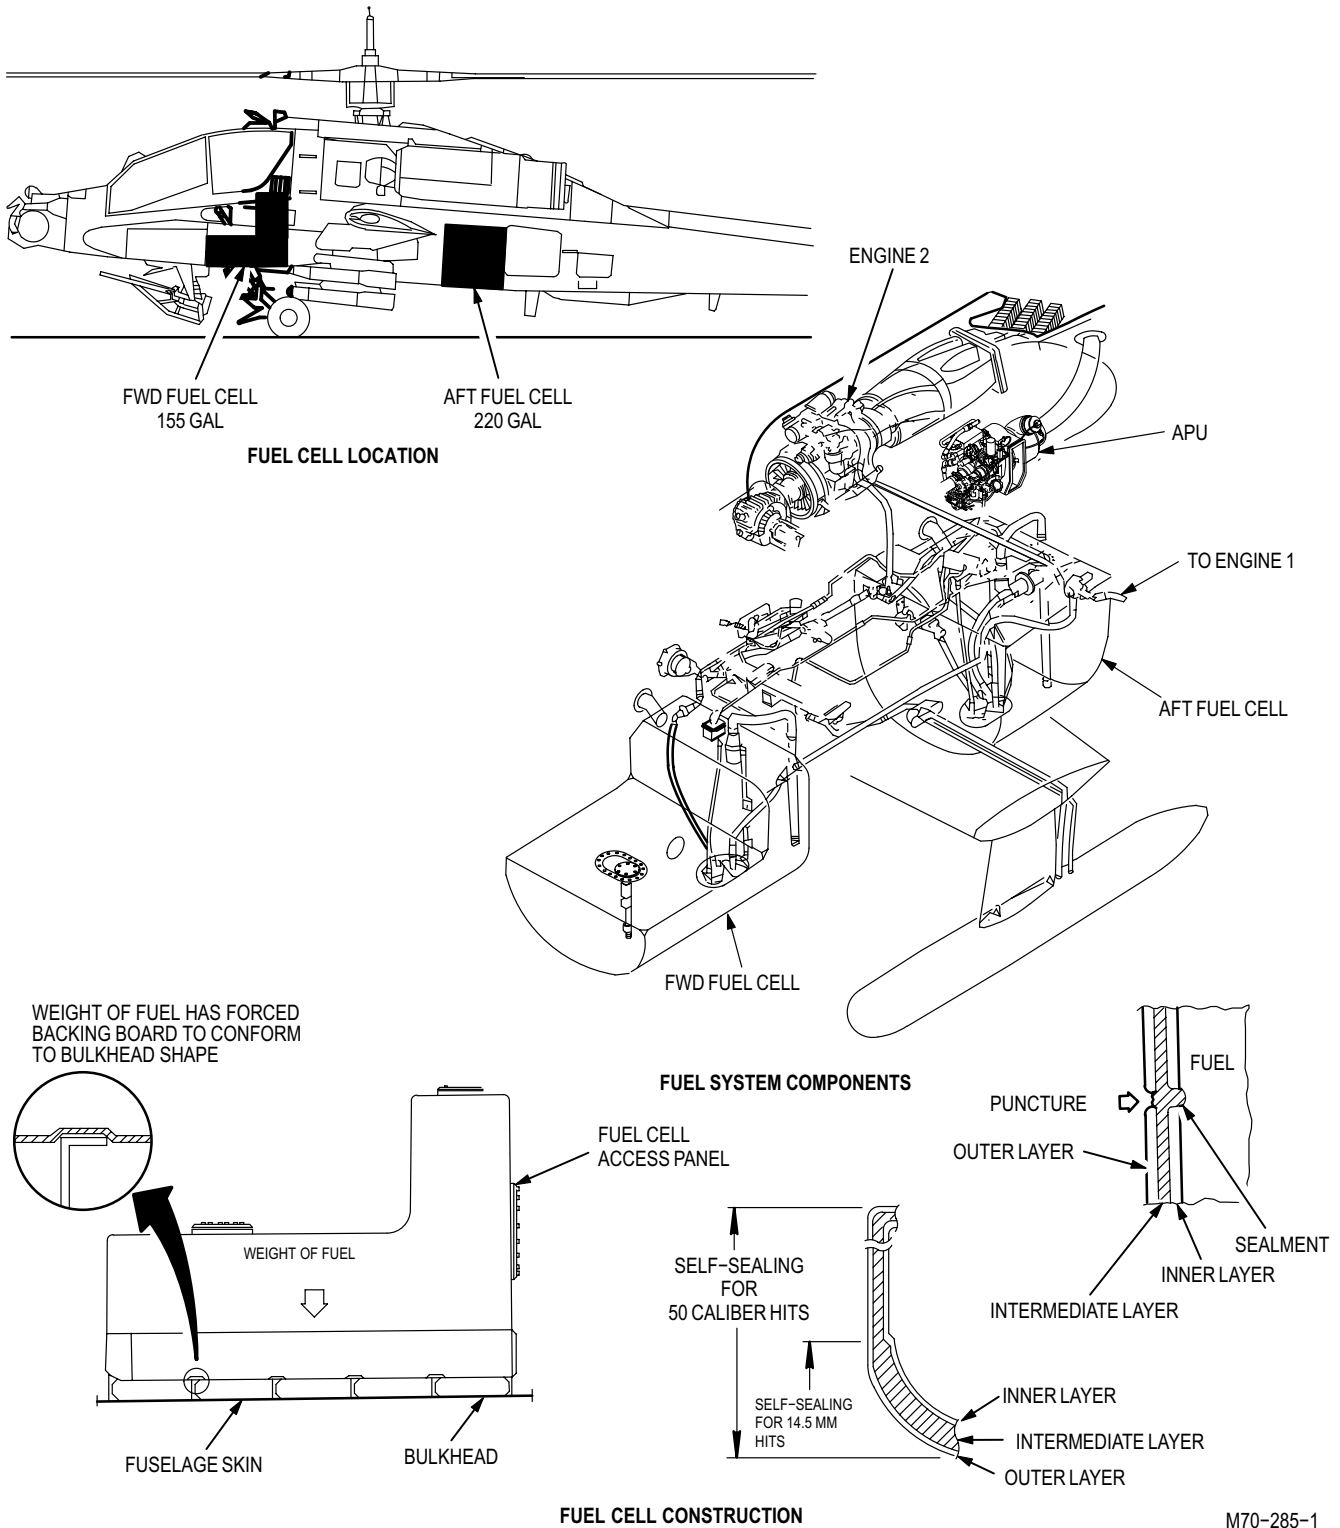

Figure 10-1. Fuel Storage System Major Component Location (Sheet 1 of 3)
a. **Fuel Storage System.** The fuel storage system (fig. 10-1) consists of the forward and aft fuel cells, breakaway valves, a baffle/check valve, and the fuel sump drain assembly. Various fuel subsystems control fuel flow operation which are described in detail in the following paragraphs.